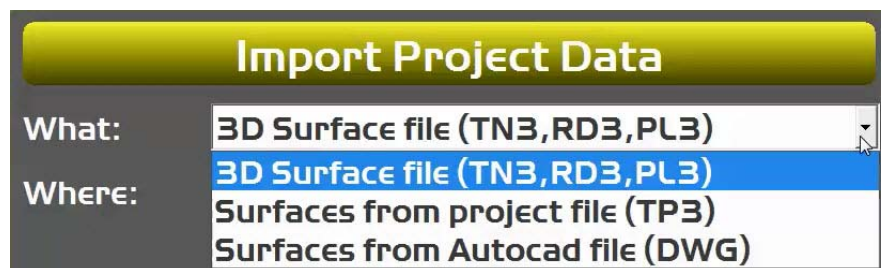

Figure 29: Project Data Import Location
4. If importing a 3D surface file, select **3D Surface file (TN3, RD3, PL3)** (Figure 29).